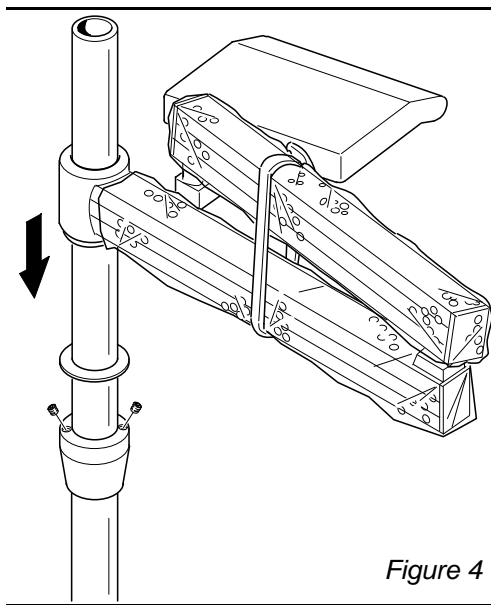

Figure 4
- A. Follow these instructions if your system came with a 40" post and a post mounted flex arm (*Figure 4*).